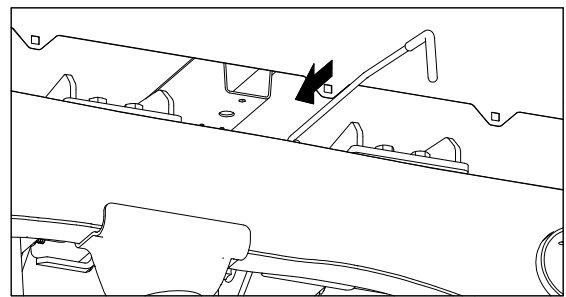
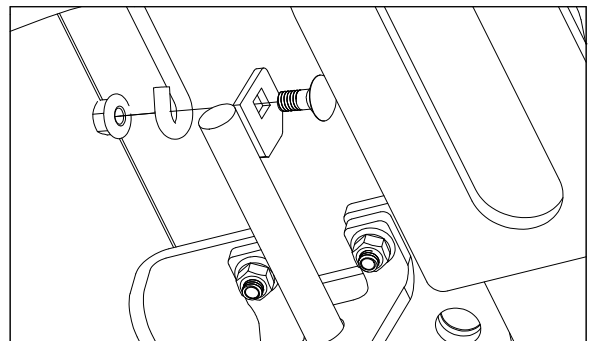

Figure G1: View looking into driver side wheel well.
Figure G2: View looking up under center section.
- Install handle.** Install the latch pin release handle by inserting it from the outside of the truck in the driver side wheel well between the two cross members, see Figure G1. Align the handle eyelet with the square hole in the latch pin so the handle is in line with the latch pin. Secure the handle to the pin with a 5/16" X 3/4" carriage bolt and 5/16" flange nut, see Figure G2. Tighten the nut until it is secure. When tightening the handle, position it so that it will not rub on the frame. Do not over-tighten and deform the handle eyelet.